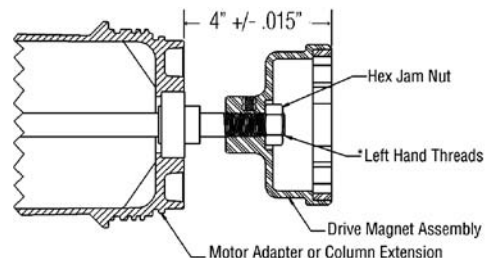

Figure 4
10. Install the left hand threaded drive magnet assembly (item 14) onto the drive shaft (item 13) until it is set at 4.00 +/- .015 as measured from the top of the motor adapter/column extension to the top of the drive magnet assembly. See Figure 4. Apply a small amount of Loctite Thread Locker #262 to the inside threads on the 5/8-18 left hand jam nut (item 32) and the outside threads on the drive shaft. Thread the jam nut on until it makes contact with the drive. Hold the drive magnet assembly still and tighten it to 50 ft. pounds. Recheck the drive magnet setting after the jam nut is tight to ensure it did not move.